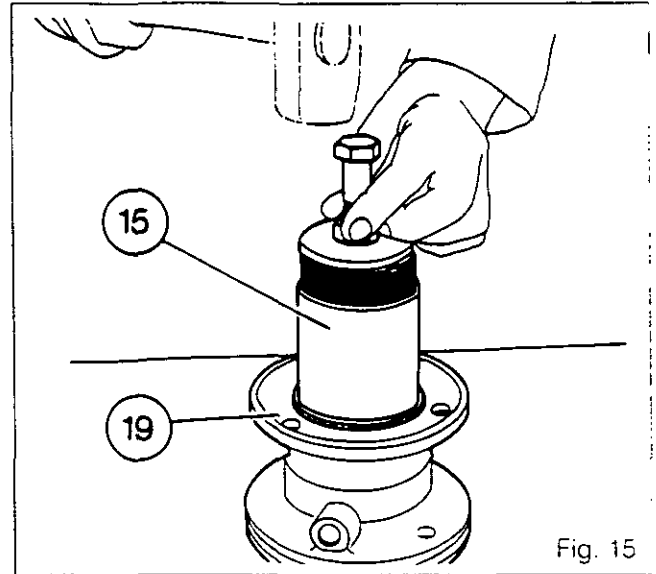

Fig. 15
Insert the piston (15) into the cylinder (19) using the tool shown in Fig.15. Turn the piston approximately one turn.